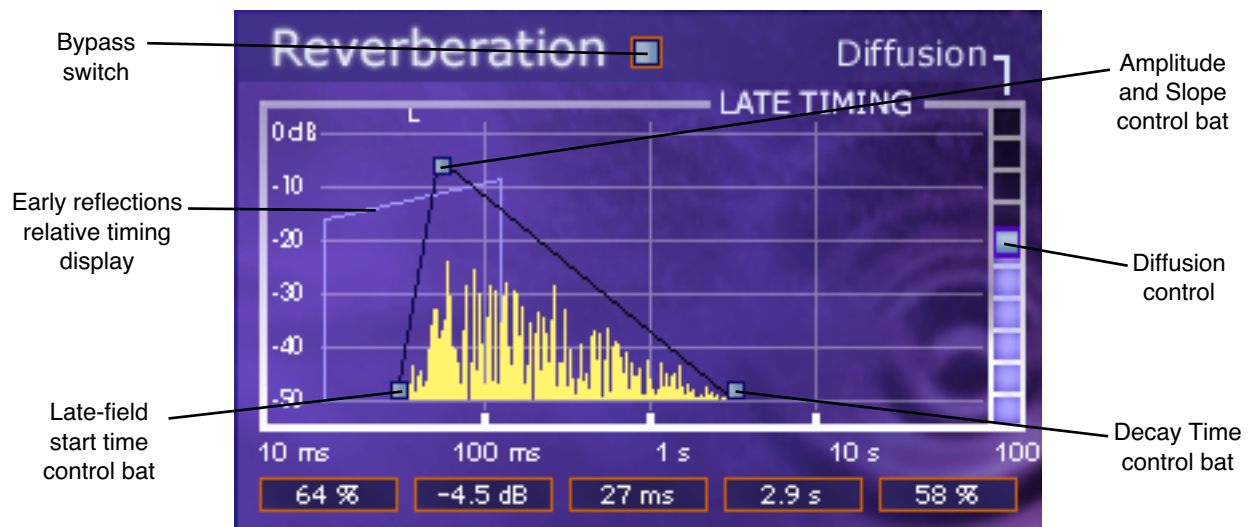

Figure 101. DreamVerb Reverberation panel
The parameters in the Materials panel, in conjunction with the Shape panel (Figure 98 on page 269) and Reverberation panel (Figure 101 on page 275) effect the spatial characteristics of the reverb.
**Note:** While materials are used to control decay rates as a function of frequency, the overall decay rate of the late-field reverberation is controlled from the Reverberation panel (see Figure 101 on page 275).
The Reverberation panel (Figure 101) contains the parameters that control the late-field (LF) reverb tail for DreamVerb.